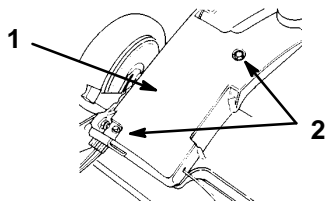

Figure 29
1. With the engine turned off, remove the two bolts that secure the belt cover (Fig. 29).
2. Remove the two bolts that secure the belt cover to the lawn mower housing (Fig. 29).